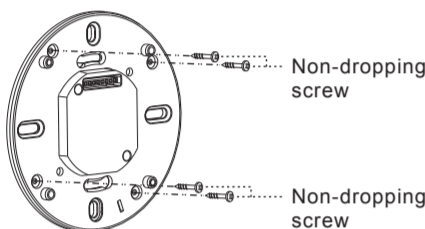

FIG.16
4.4.3.4 Insert 4pcs non-dropping screws to the corresponding screw holes on sensor's fixing plate, and those 4pcs screws will not drop off to provide convenience to the subsequent installations (See FIG.16).